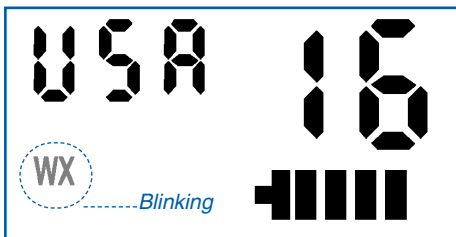

Fig. 10c: WX Mode Temporarily Stopped Display
- Pressing the 16 key will cause the radio to monitor Channel 16 and the **WX** indicator will blink. A second press will monitor Channel 9. A third press will return to Weather Mode. (Fig. 10c)